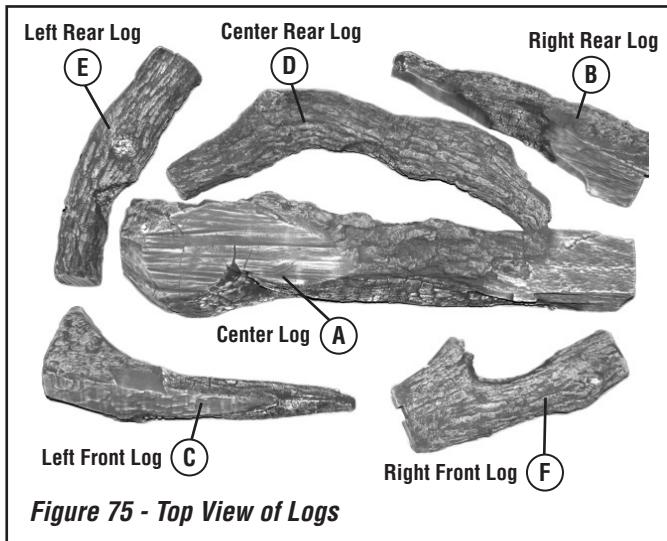

Figure 75 - Top View of Logs
5. Install logs (reference *Figure 75* and *Table 10*).